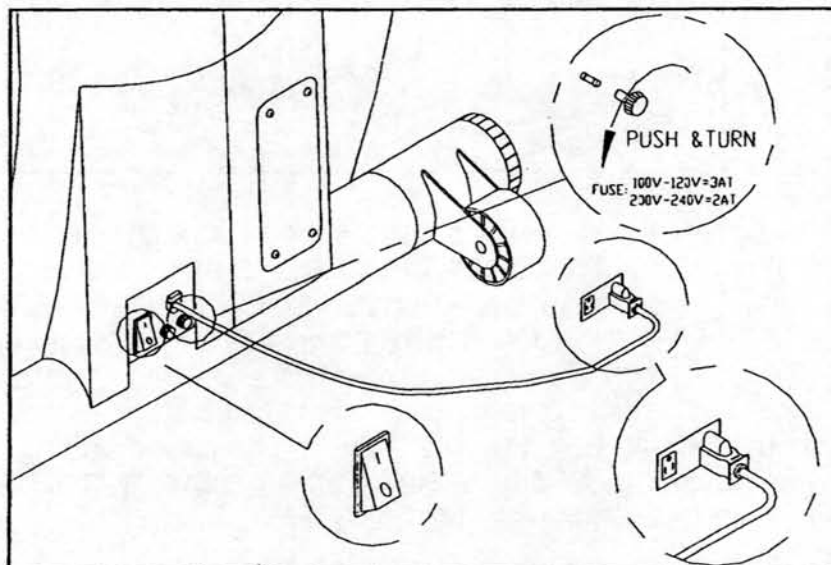

Fig. 1-1
- a. Check if the power cord is plugged securely into the wall socket. Make sure the voltage is normal. (Please refer to Fig. 1-1).
- b. Make sure the POWER SWITCH is in the " | " (ON) position. (Please refer to the fig1-1)